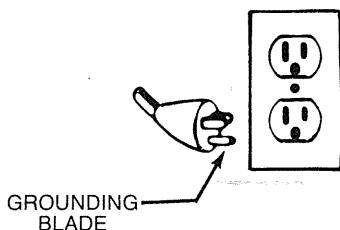

Figure 2 — Grounding Method
- 13. To reduce the risk of electric shock, the unit should be plugged directly into a properly installed and grounded 3-prong grounding-type receptacle, as shown in Figure 2. The green (or green and yellow) conductor in the cord is the grounding wire. The motor must be securely and adequately grounded for your protection against shock hazards!